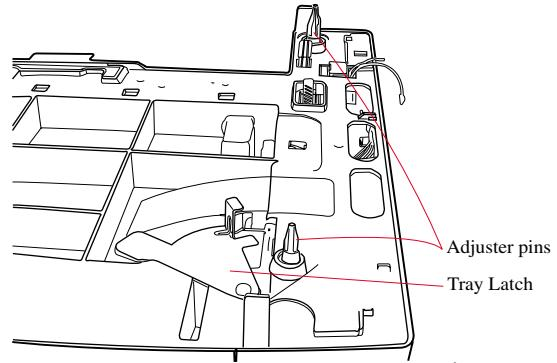

Fig. 3-25
3. Orient the LFU and the position of the adjuster pins. Verify the position of the claw of the tray latch (see Fig. 3-25).